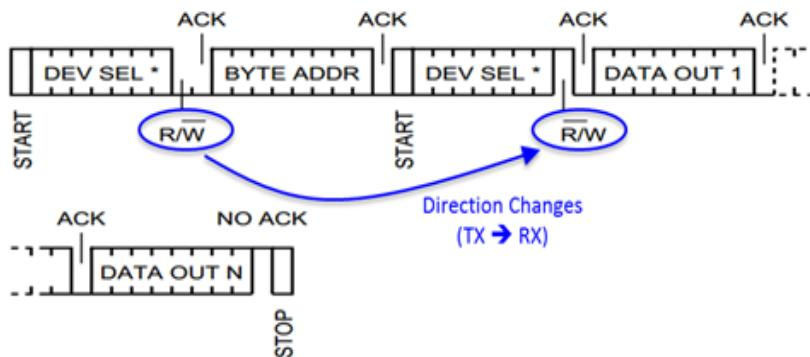

Figure 5-9. I2C sequential random read protocol
For example in Figure 5-9 (settings of DMA and I2C are listed in Table 5-2), the settings should be set before I2C transaction (START::START(I2Cx_Base + 0x24)[0]).
- The DMA direction is controlled by I2C. When I2C changes the DMA direction (as shown in Figure 5-9), it will send the side-band signal to DMA. When the DMA direction (Tx → Rx) is changed by I2C, enable DMA again until “Rx transfer length” is received.